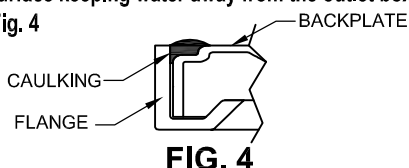

FIG. 4
4. For wet location, see FIG. 4
CAUTION: For wet locations, in accordance with Underwriters Laboratories requirements, a line of caulking compound such as acrylic latex or silicone must be placed around the perimeter of backplate also contacting the flange (as shown) to seal against mounting surface keeping water away from the outlet box and back openings. Fig. 4